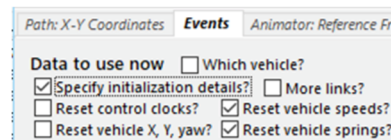

Figure 2. Checkboxes on the Events screen.
The **Events** screen has four checkboxes to possibly reset the vehicle state when an **Events** dataset is read by the VS Math Model (Figure 2). If the checkbox **Specify initialization details** is not checked, the other checkboxes are not shown and the parameters `OPT_INIT_PATH`, `OPT_INIT_SPEED`, and `OPT_INIT_CONFIG` keep their values. If the Event dataset is read after the run is in progress, then the three parameters have values of 0 unless they are specifically modified in an Event.
- b. If any of the restart options were set in a Parsfile that is read (Figure 2), perform the associated initialization/reset calculations.